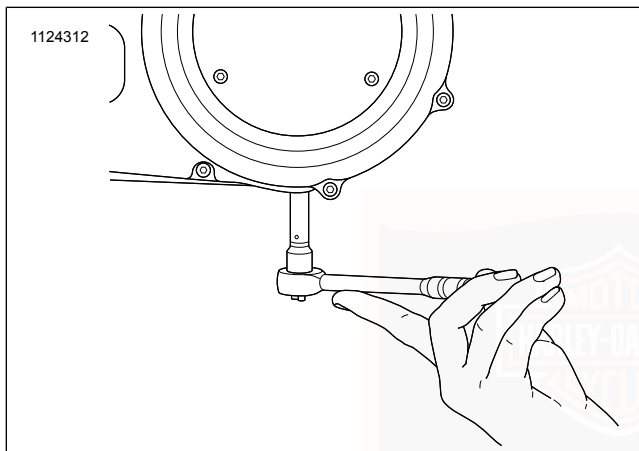

Figure 57. Removal/Installation of Chaincase Drain Plug
3. See Figure 57. Drain primary chaincase.